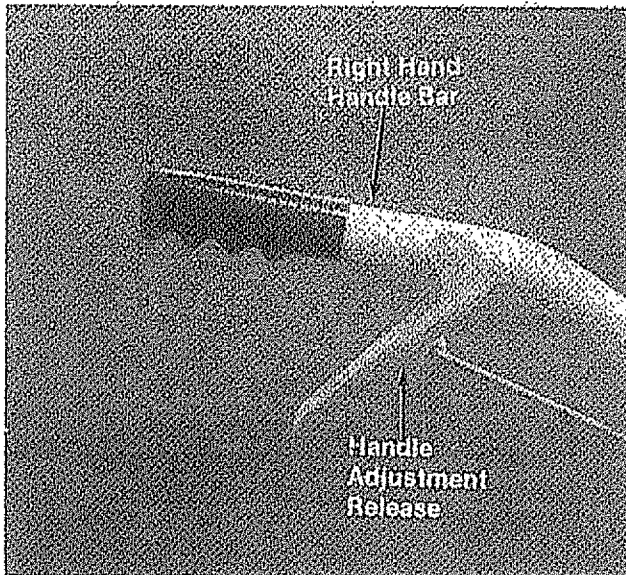

FIGURE 22.
4. **Handle Adjustment:** The handle adjustment release is located on the right hand handle bar. See figure 22.